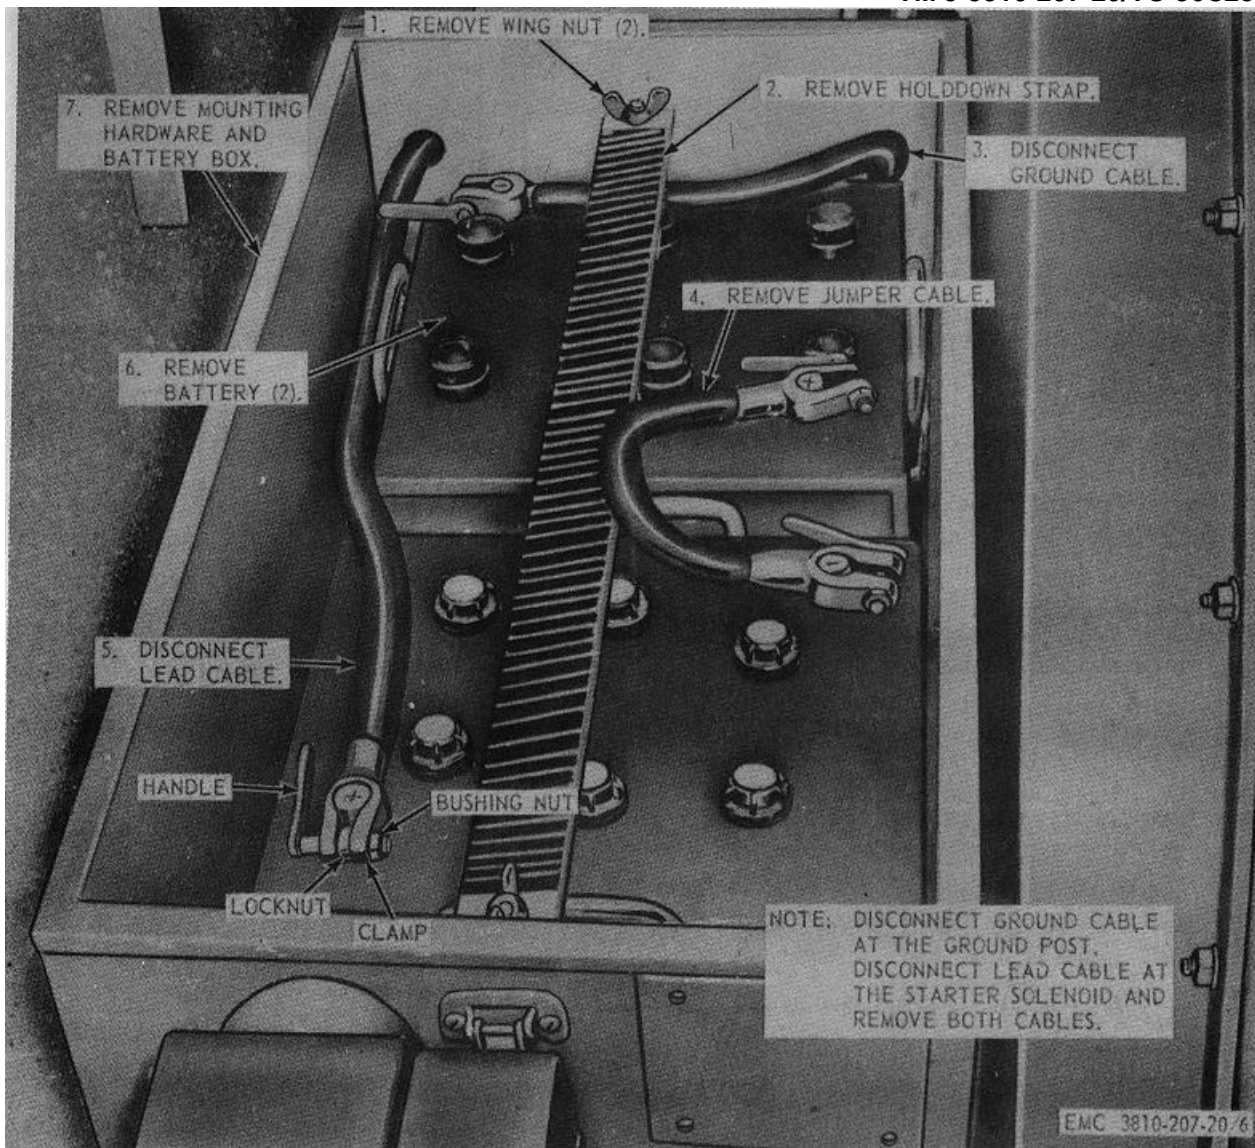
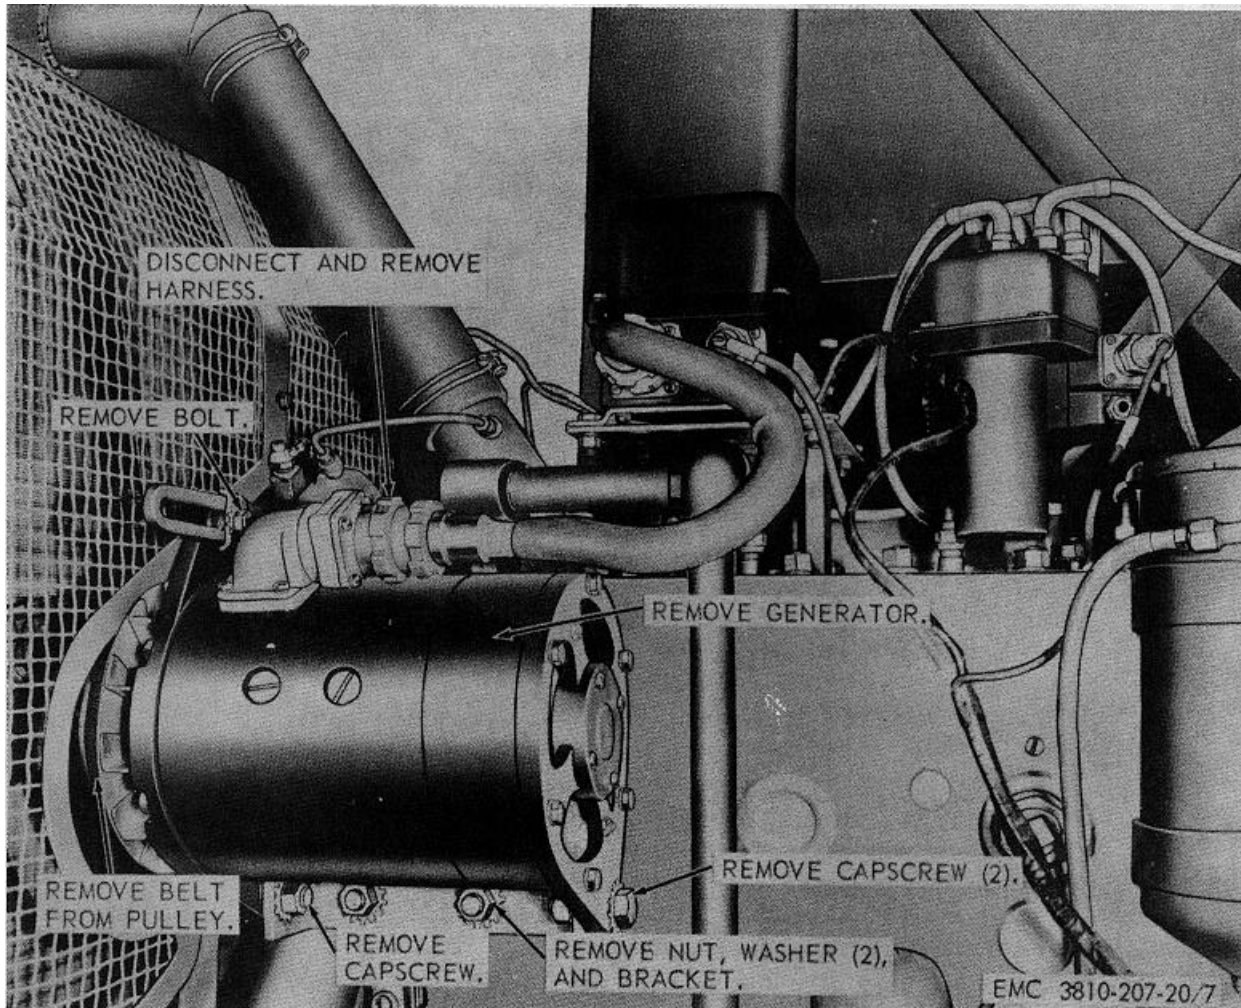

Figure 6. Crane batteries, cables, and box, removal and installation.
Figure 7. Generator assembly, removal and installation.
- (1) Remove the battery box cover (TM 5-3810-207-10).
- (2) Remove the batteries, cables, and box in a numerical sequence as instructed on figure 6.
- (1) Install the battery box, batteries, and cables in reverse numerical sequence as instructed on figure 6.
- (2) Install the battery box cover (TM 5-3810-207-10).
a. Removal. Remove the drive belt as instructed on figure 7.
- (1) Clean the drive belt with a cloth dampened with an approved cleaning solvent.
- (2) Inspect the drive belt for cracks, breaks, and frayed or stretched condition. Replace defective drive belt.
c. Installation. Install the generator drive belt as illustrated on figure 7.
a. Removal. Remove the generator assembly as instructed on figure 7.
c. Installation. Install the generator assembly as illustrated on figure 7.
- (1) Hook voltmeter (par. 73).
- (2) Start engine and slowly build up rpm to operating speed. Observe voltmeter. The minimum voltage is 27.5 volts.
- (3) If voltage is not built up to required value, generator is bad; replace generator.